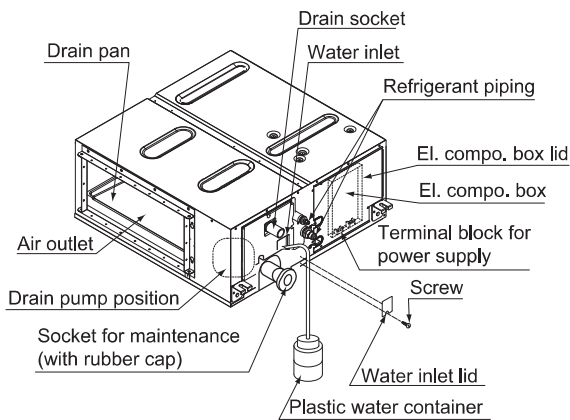

Fig. 15
- Gradually pour 1 litre of water from the inspection port at the bottom of the drain socket on the left side of the drain pan giving caution to avoid splashing water on the electric components such as drain pump and confirm drainage by operating the indoor unit under cooling mode according to **10. FIELD SETTING.** (Refer to Fig. 15)
3. Gradually pour 1 litre of water from the air outlet on the left side of the drain socket into the drain pan giving caution to avoid splashing water on the electric components such as drain pump. (Refer to Fig. 15)